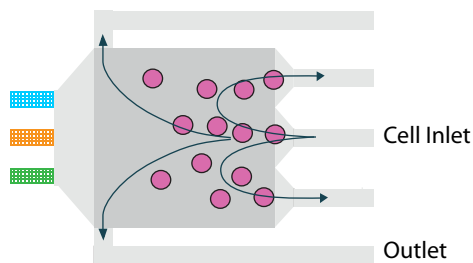
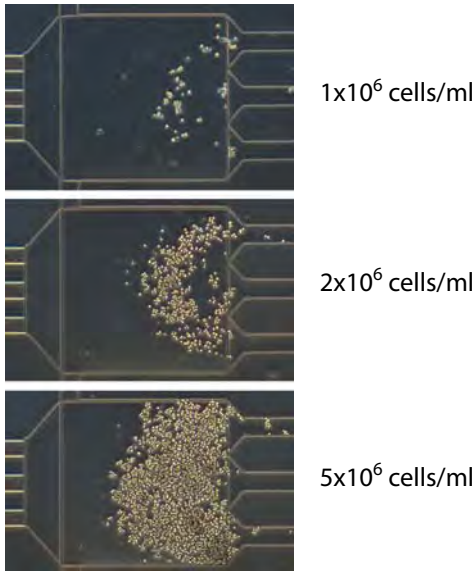

Figure 6 Cell Loading Flow Profile
Figure 7 Cell Loading Density
3. Pipet 2-6  $\mu$ l of cell suspension into the **left** 2mm hole at the bottom of the cell inlet well (5). Capillary force will pull the liquid through the microfluidics, and cells will accumulate in the culture area over ~2-5 minutes (Figure 6). Verify cell loading density by viewing the culture chambers under a phase contrast microscope. If desired, re-aspirate the right hole to re-establish capillary flow and increase cell numbers. In general, cells will divide more quickly when loaded at higher density (see Figure 7).